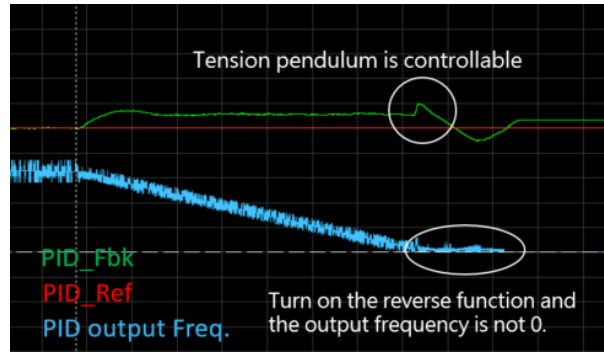

Figure 11
- ✓ Using our new parameter, allowed reverse running time after start-up, (the reverse running function is enabled once start-up) can reduce the pendulum position to 53.2% at stopping, as shown in Figure 11.